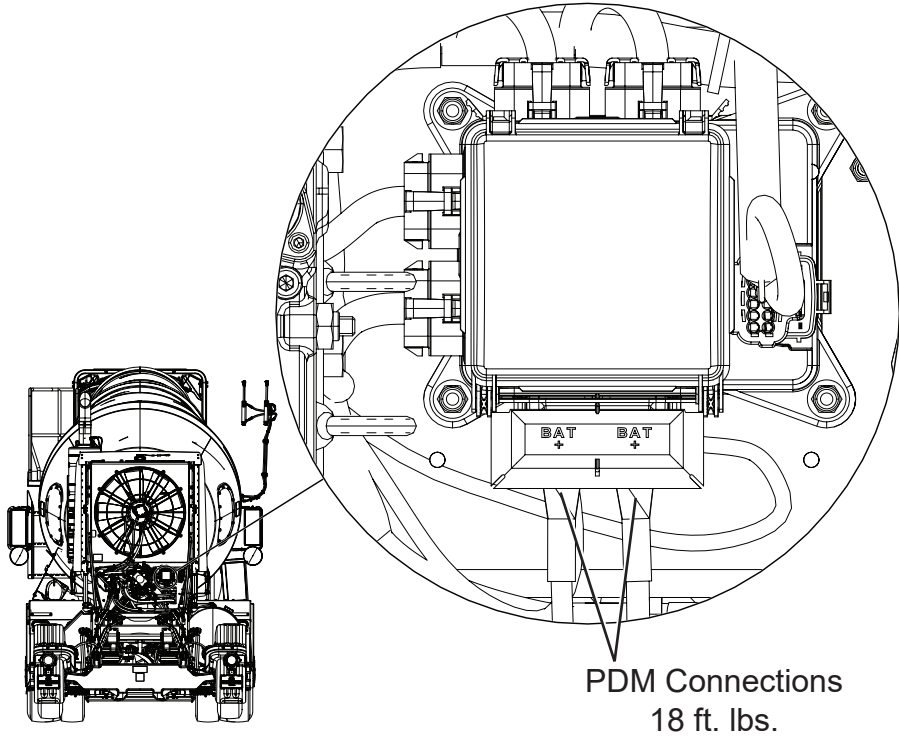

Figure 2
- 4. Check the rear PDM connections (located on the back of the cooling support) torque, see Figure 2.